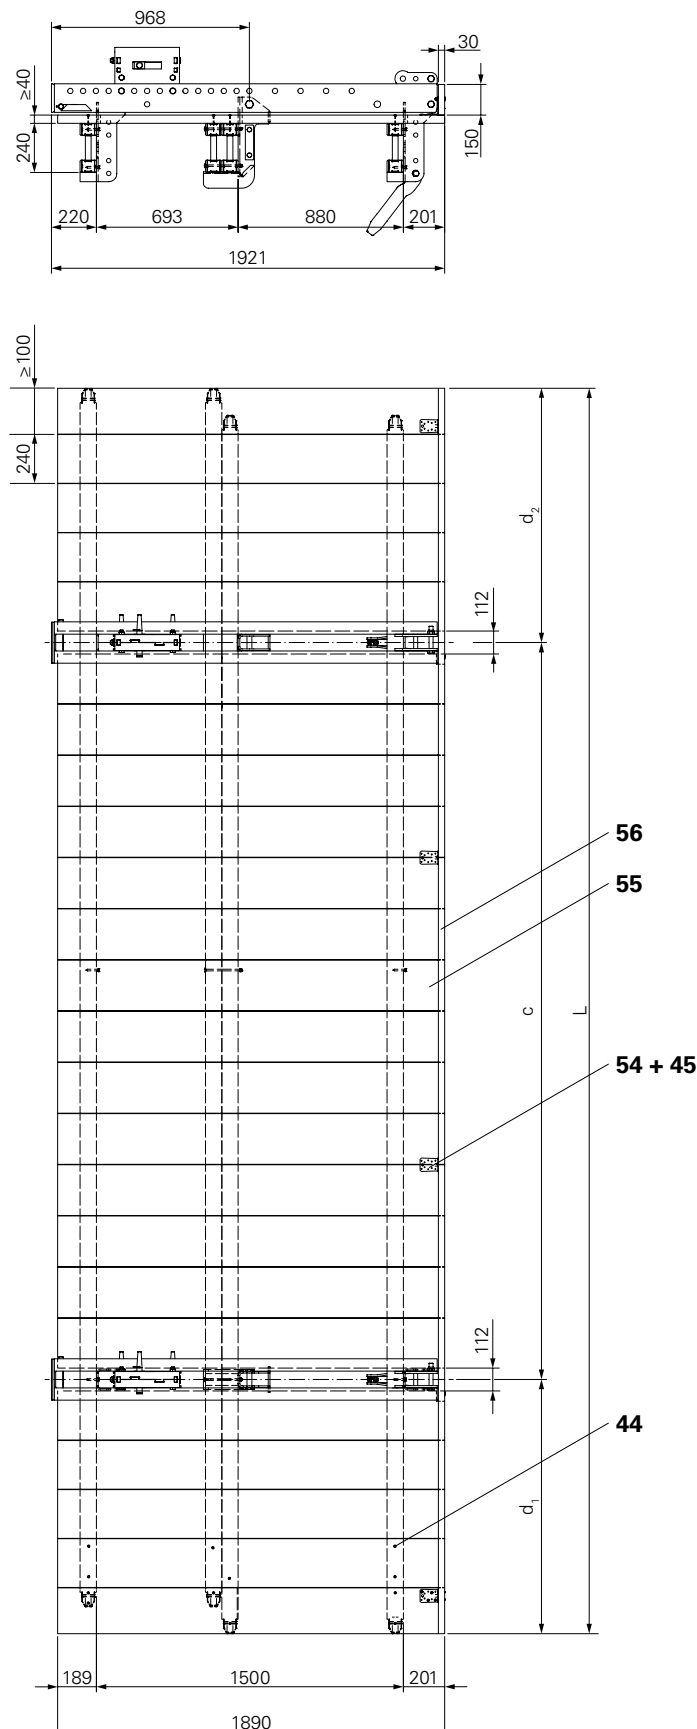

Fig. B1.01
- Bracket spacing c and cantilevers d_1 and d_2 as well as the total length L are specified in the planning details. (Fig. B1.01)